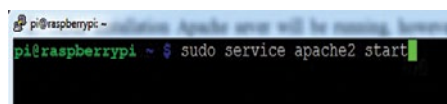

Fig. 2: Starting Apache server
2. After this installation, Apache sever will be running. Thereafter you can start or stop it by running the following commands (also see Figs 2 and 3):